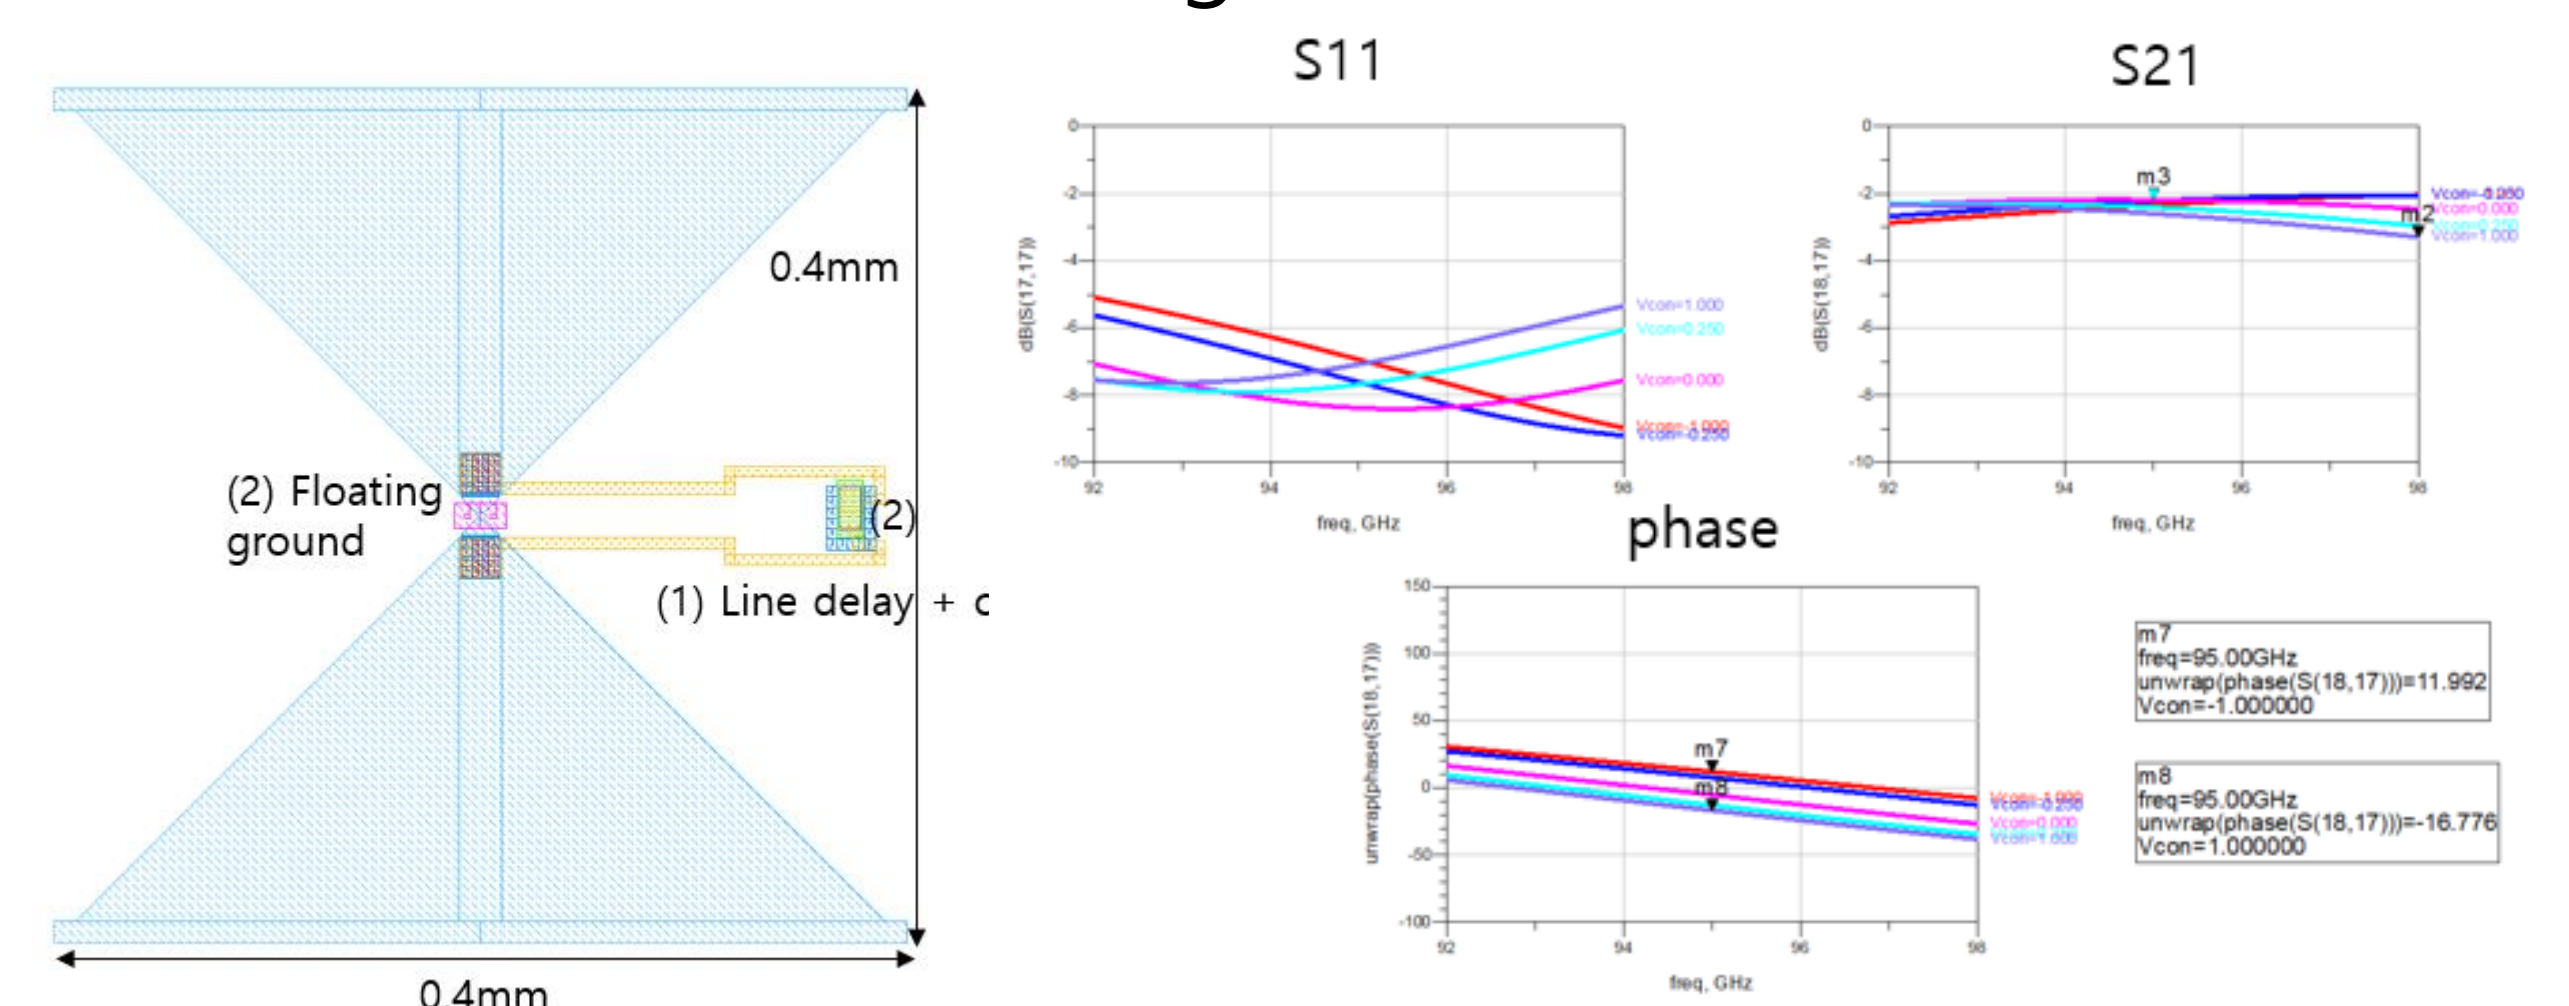
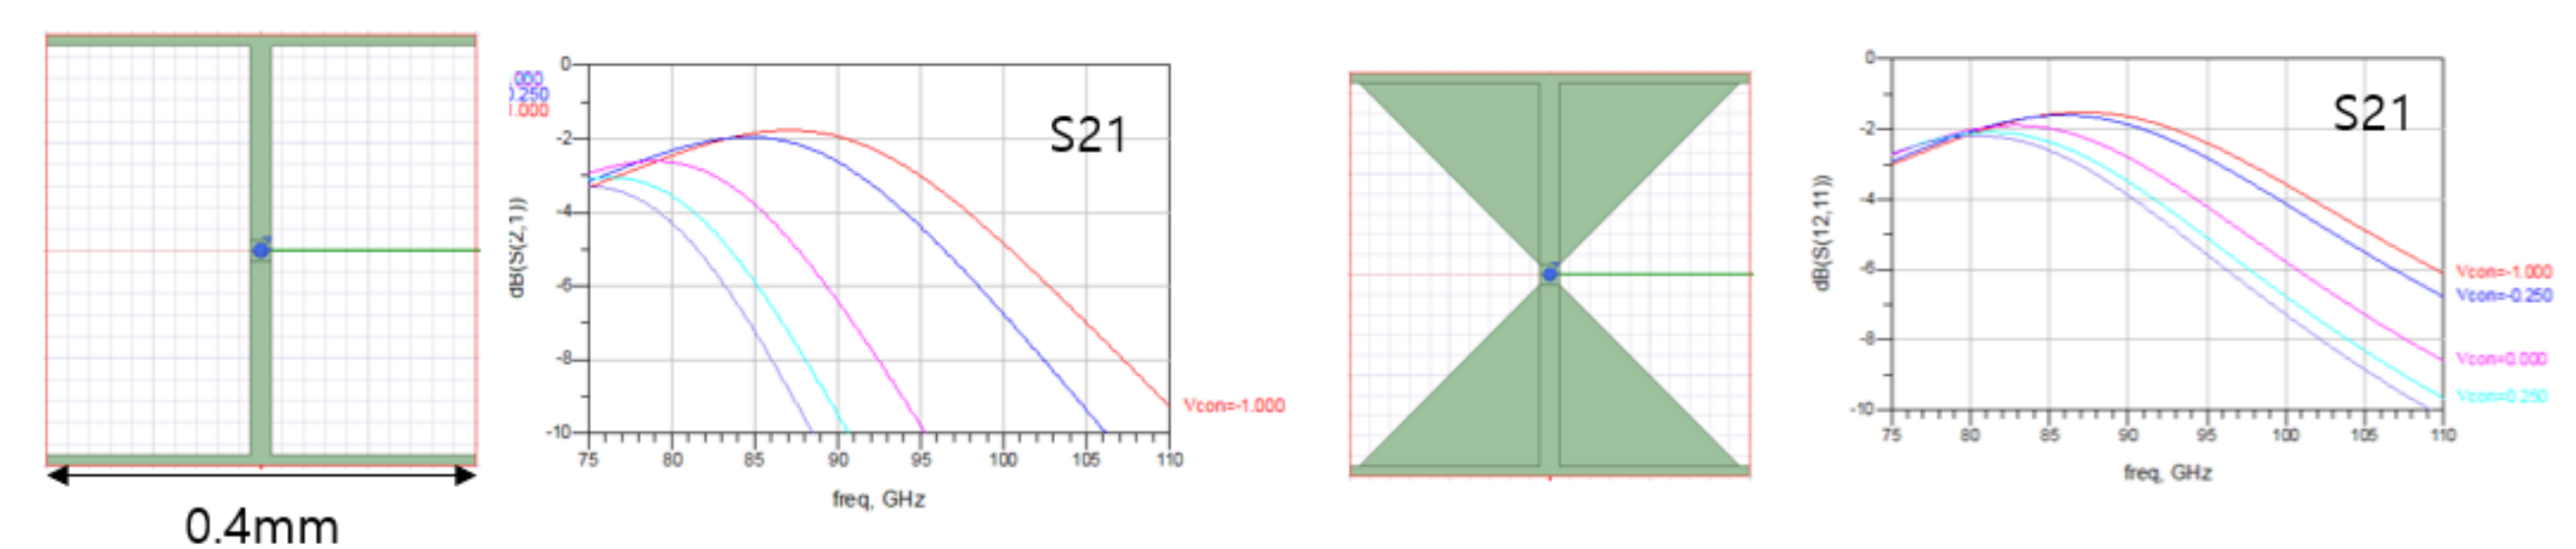

Fig 3. Layout of unit-cell and simulated |S11|, |S21|, and phase
Fig 4. Simulated |S21| of strip line(left) and bow tie(right)
- The size of unit-cell is selected 0.4 mm and the layout is shown in Fig. 3. Line shape is selected to bow-tie structure to give good impedance matching performance. The improvement of matching performance is shown in Fig. 4.
- This unit-cell phase shifter performance is shown in Fig 3. The phase shifter has -2 dB insertion loss between 92 and 98 GHz, and 28 degrees phase control range.